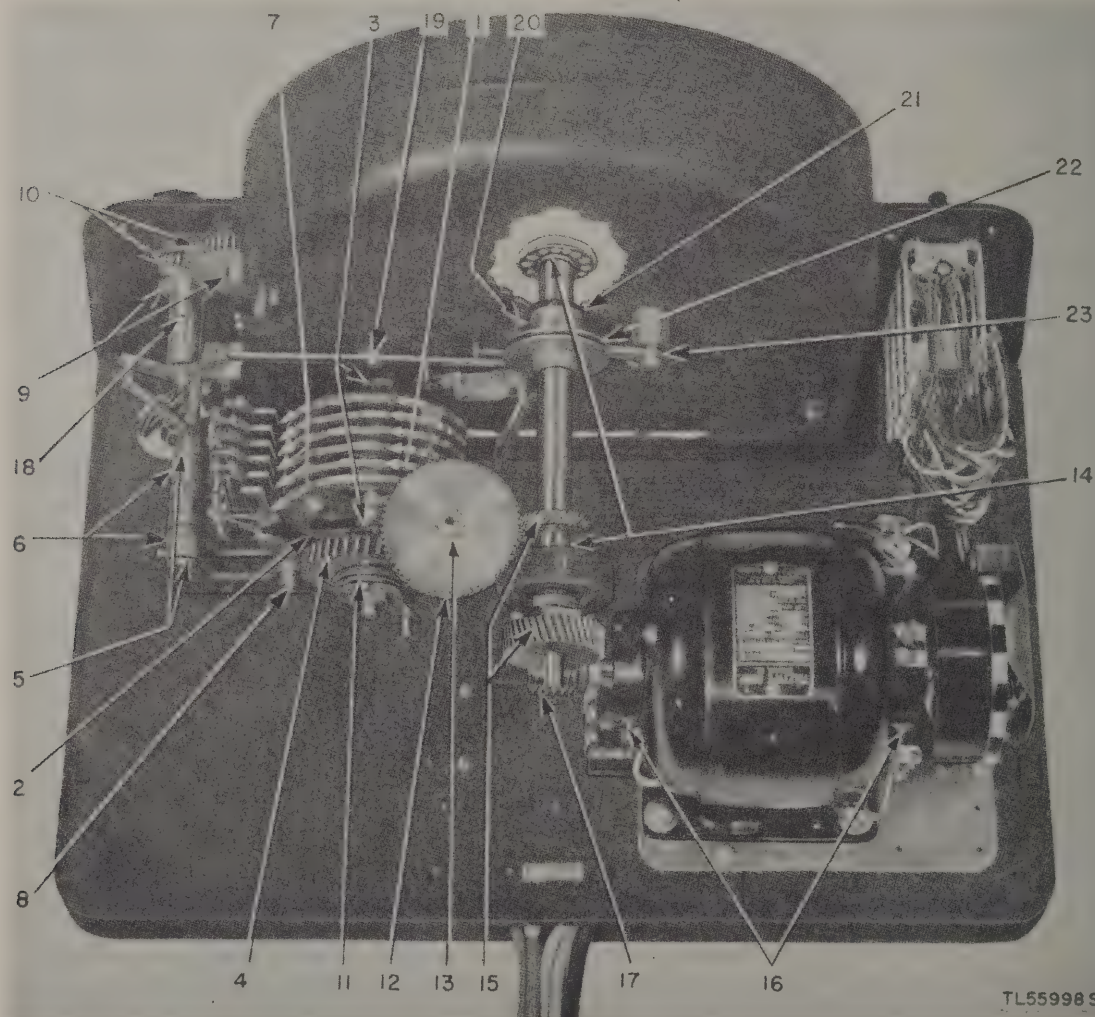

Figure 8. Distortion Test Set TS-383/GG showing lubrication points.
*When the temperature is so high that special preservative lubricating oil (PS) runs off the parts, engine oil (OE) may be used in place of oil (PS).
a. GENERAL. The lubrication instructions listed are based on normal operating conditions with the equipment in service for an average of 8 hours a day. Under these conditions, the lubrication interval is once every month. When the equipment is operated more than 8 hours a day, reduce the interval proportionally. When equipment is operated in tropical climates, a further reduction in the interval may be required. The location of the parts of Distortion Test Set TS-383/GG are shown in figure 8. The type of lubricant to be used and the specific instructions for each part are given in the lubrication chart. (See *c* below.) Apply PS sparingly to springs and loops of all helical springs to prevent wear and rust. When the unit is overhauled or repairs made, clean the parts with dry-cleaning solvent (SD), allow the equipment to dry, and relubricate.
*Item number refers to figure 8.